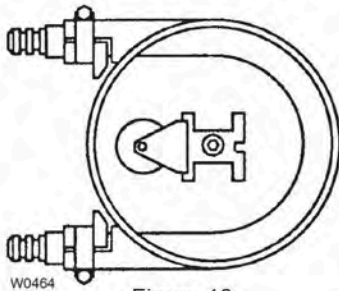

Figure 10
5. See Figure 10. Turn rotor 180° as shown.